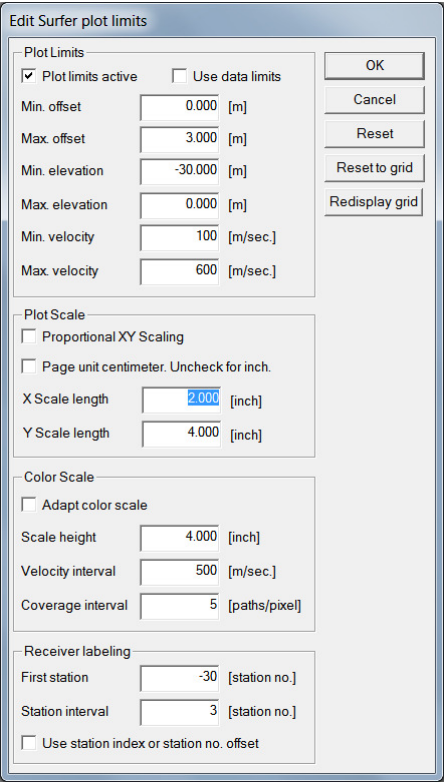

Fig. 23 (left) : select **Grid/Surfer plot Limits**. Edit as shown and click button OK.
6. select **Grid\Surfer plot Limits** and edit as in Fig. 23